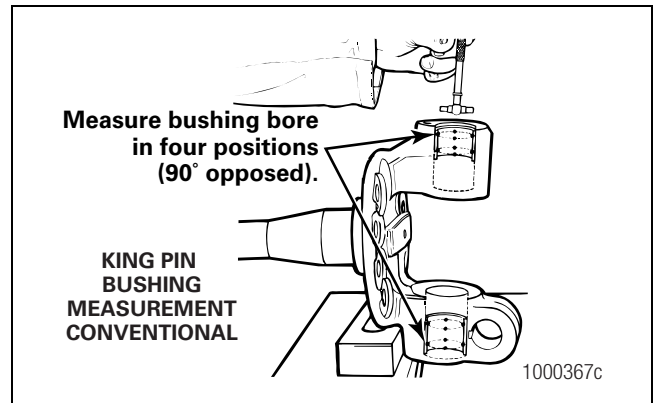
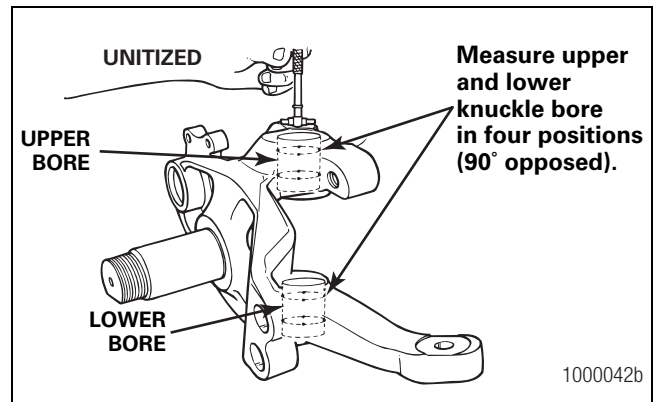

Figure 5.4
Figure 5.5
4. Repeat this procedure for measuring the lower knuckle bore. Figure 5.4 and Figure 5.5. Refer to the knuckle bore maximum diameter in Table D.